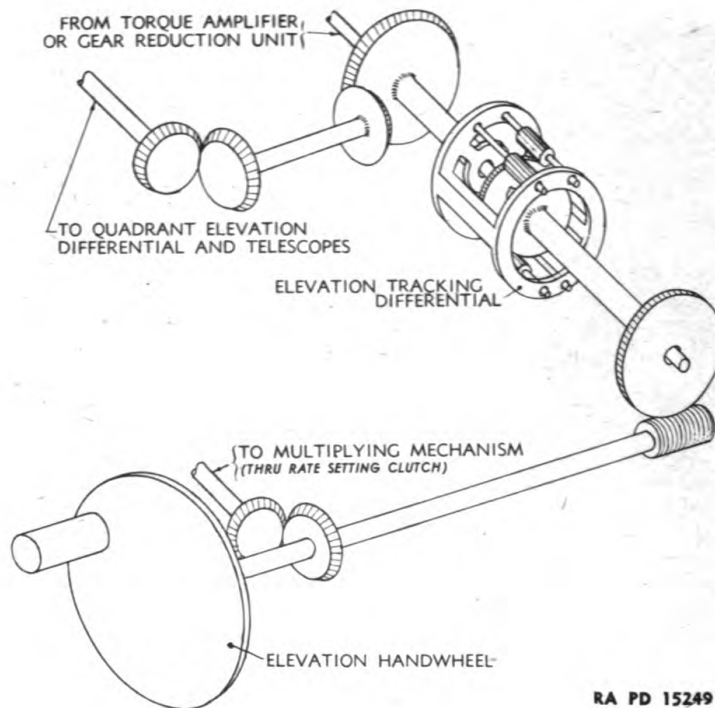

Figure 36 – Elevation Drive Shaft and Elevation Tracking Mechanism – Schematic Diagram
drive shaft group by having an extra bracket holding an independent shaft assembly which gears the output of the elevation tracking mechanism to the quadrant elevation mechanism (fig. 36).
c. **Elevation Tracking Mechanism** (figs. 36 and 37). This is essentially the tracking differential which adds mechanical elevation tracking motion and hand tracking motion. The output is sent to the quadrant elevation mechanism and the telescope shaft through a shaft and gears which are bracketed to the drive shaft group. The bracket and pinion are not a part of either unit, however.